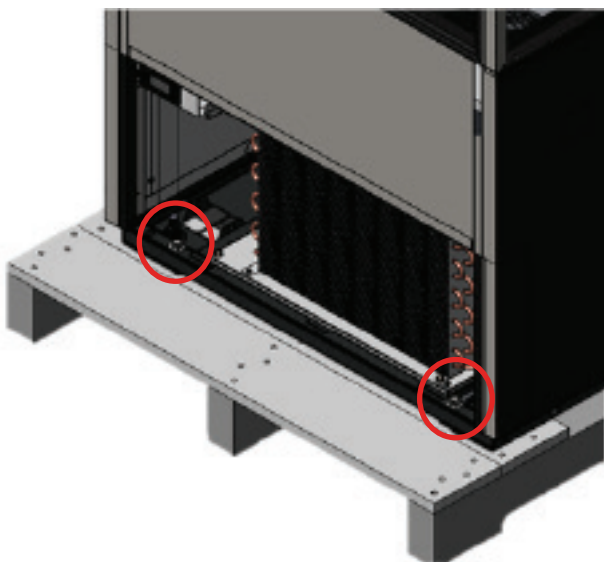

Fig. 2. Remove the skid bolts on the front and back.
2. With an adjustable wrench, remove all shipping bolts securing the wood skid to the bottom of the cabinet. See fig. 2.